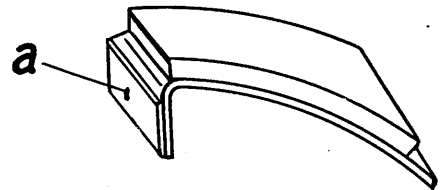

Fig. 13
- 4) Noises that might occur in the centrifugal clutch during start-up of the separator, can easily be eliminated by providing metal lips "a" (Fig. 13) of clutch shoes with a very light film of graphite paste or "Molykote". If too thick a film is applied, small particles of the paste might be centrifugally thrown on the friction surfaces, thus causing slipping of the clutch (see next paragraph: "Troubles, - their causes and remedies").